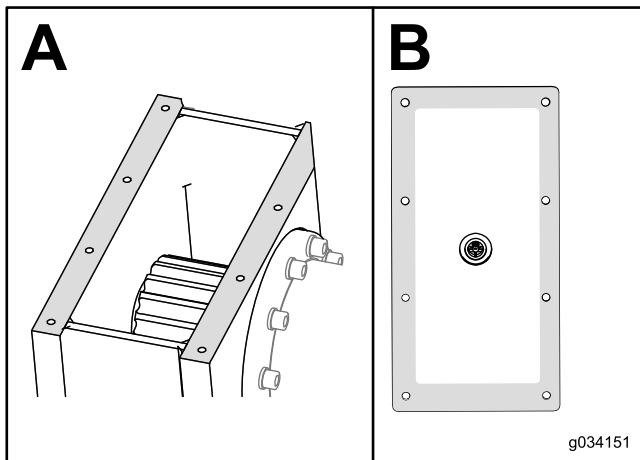

Figure 108
9. Clean the sealant off of the gearbox box and cover (Figure 108).
10. Put new automotive-grade RTV sealant around the edge of the cover (Box B of Figure 108).